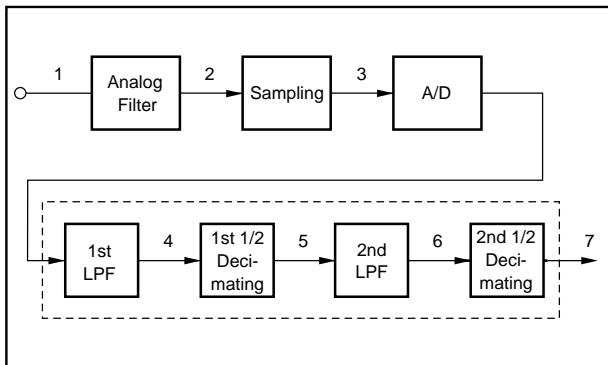

FIGURE 1. A Block Diagram of an Oversampling ADC Followed by Digital Decimation.
According to the Nyquist Theorem, digital audio recordings sampled at a rate of 44.1kHz (CD) or 48kHz (DAT) should accurately reproduce the full 20kHz audio bandwidth. Unfortunately, if frequencies higher than 1/2 the sample rate are seen at the input of an analog-to-digital converter, aliasing back into the baseband will occur. At these sample frequencies, the way to assure that aliasing does not occur is to use complicated high order filters at the input of the ADC. These filters can be expensive and they can also have undesirable phase characteristics. These problems can be avoided by using an oversampling ADC (such as the PCM1750) with a decimating filter, where a high order filter can be replaced with a low order filter which has very little phase distortion (Figure 1).